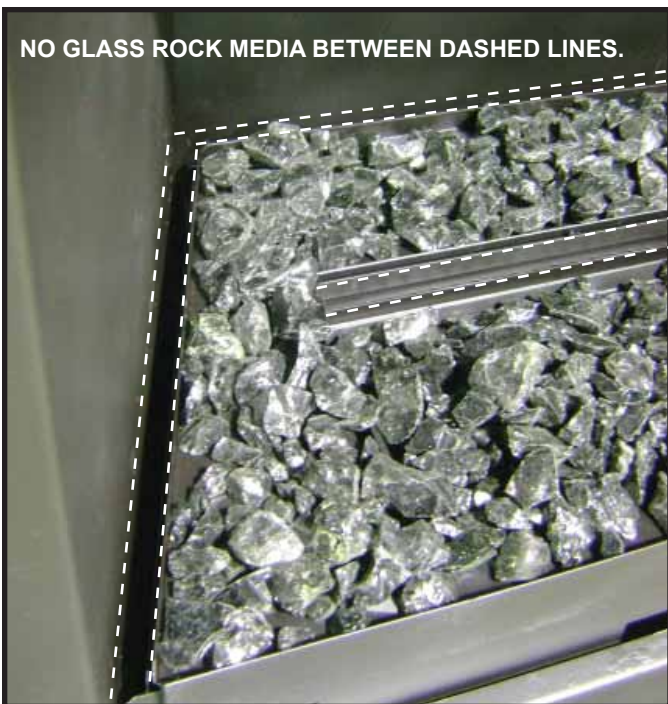

Figure 14.4. Maintaining Media Tray Air Spaces.
**NOTICE:** Care should be taken to avoid placing glass rock media between the left, right and back edges of the media tray and the firebox. Blocking this gap may cause an undesirable flame appearance. See Figure 14.4.